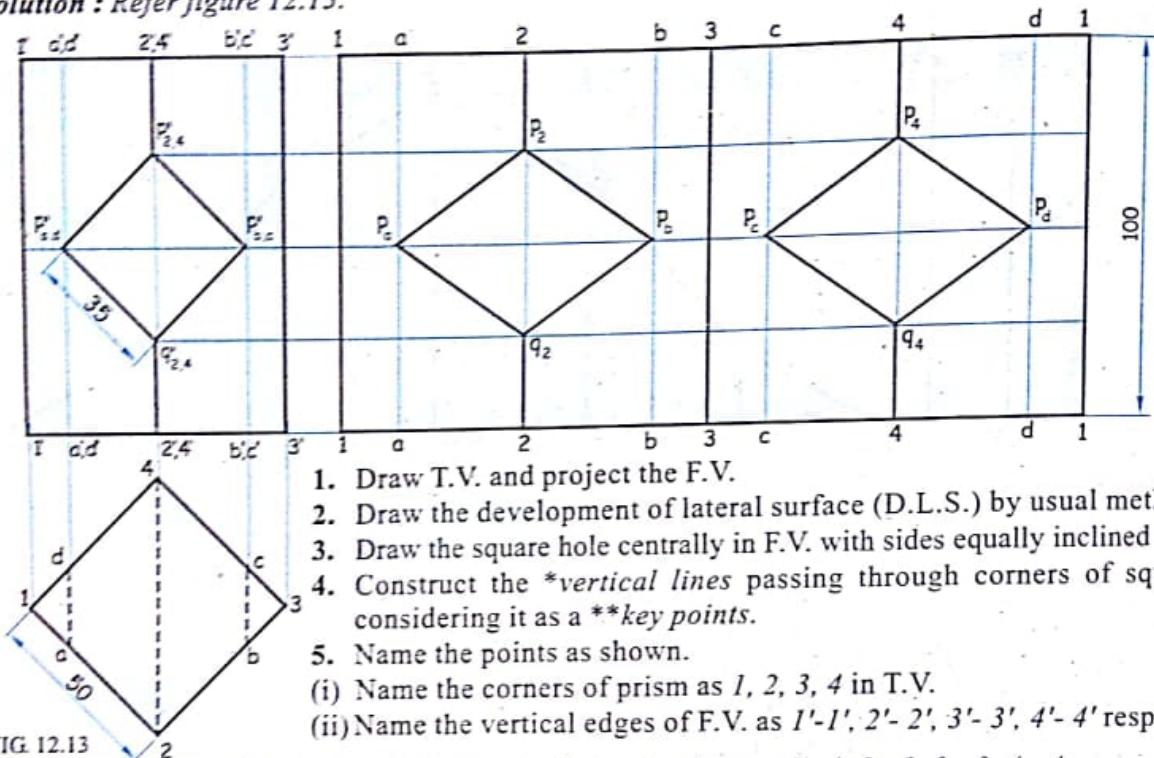

FIG. 12.13
**Solution :** Refer figure 12.13.